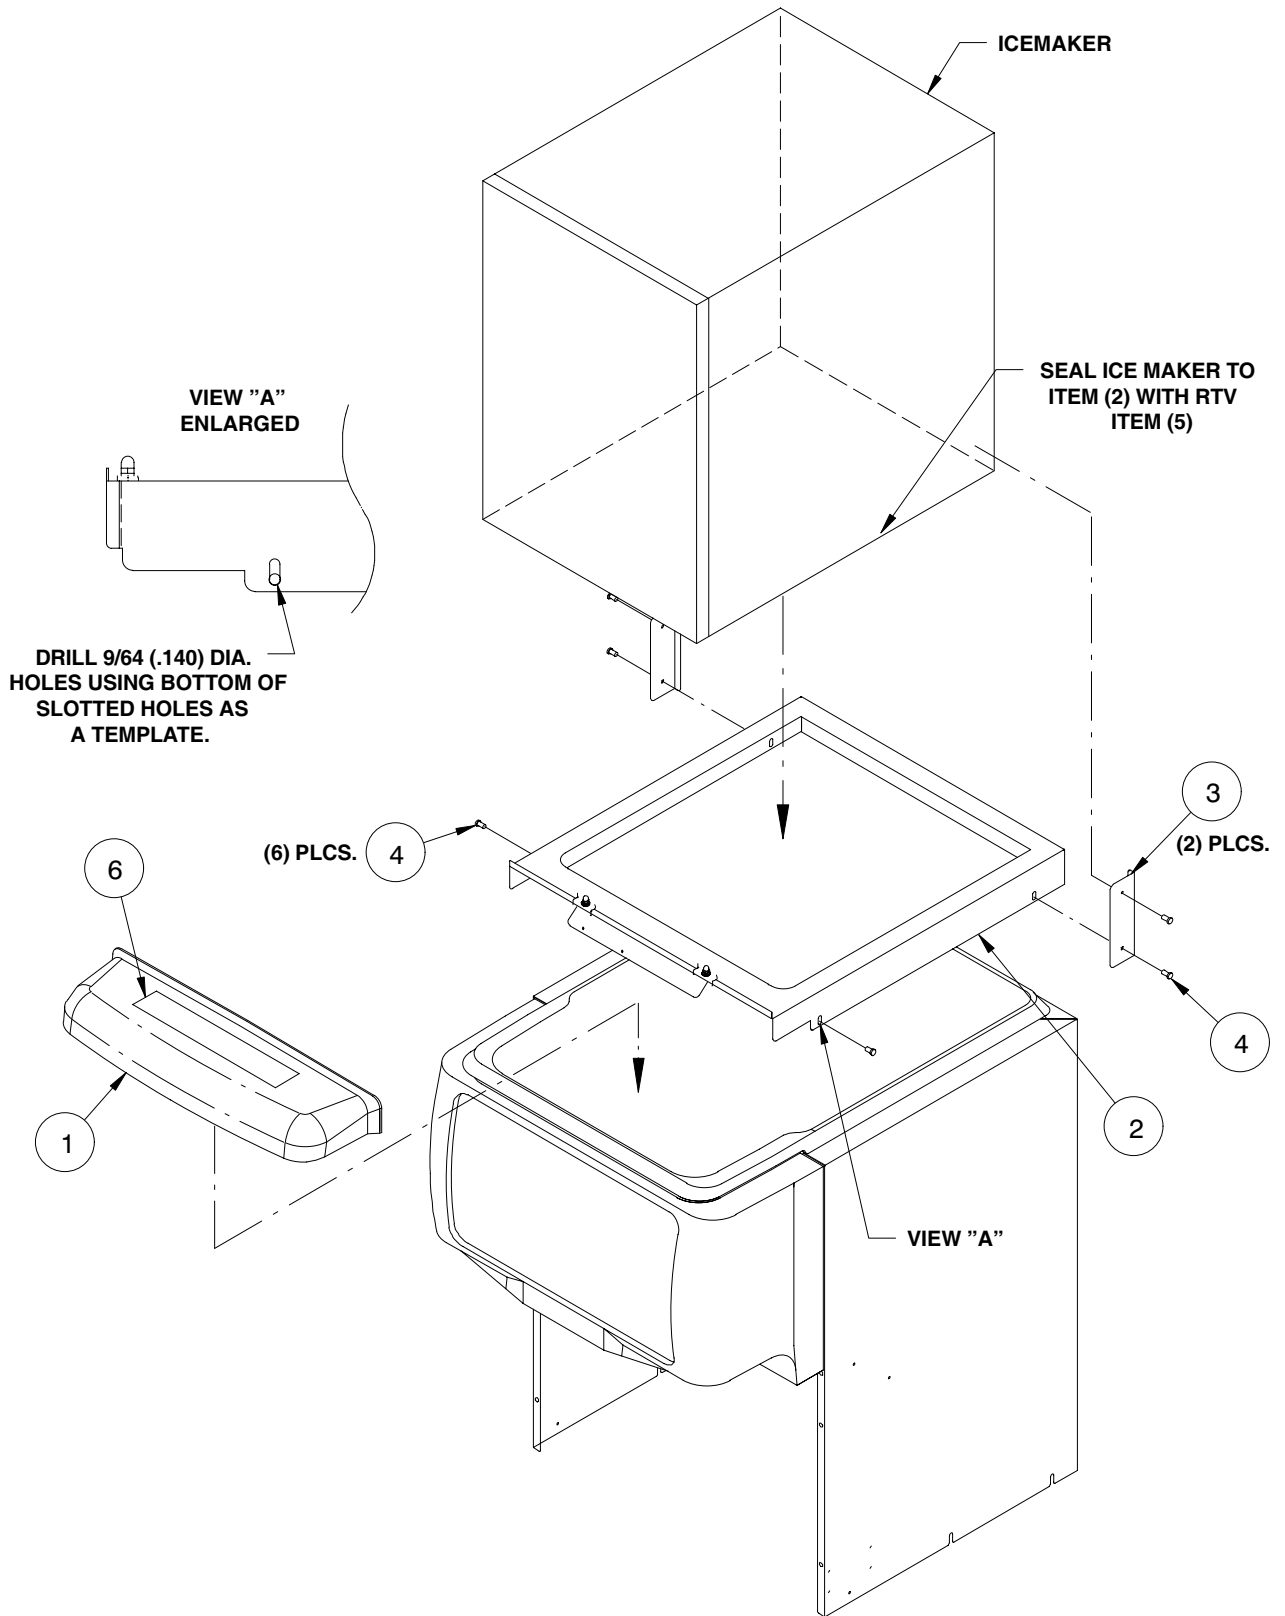

FIGURE 2. ED/DF150 Kit
WARNING: The dispenser must be secured with 3/8-16 bolts (6) to the counter before installing this Icemaker Adapter Kit. Refer to the installation manual and Figure 2 for the counter mounting template.